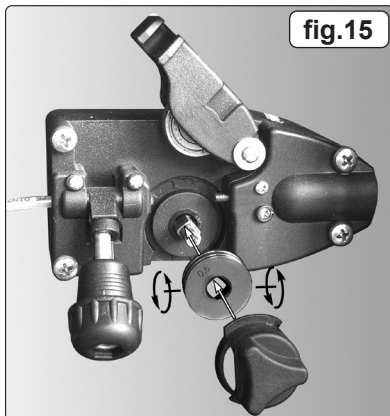

fig.15
9.5.2. Pull the roller off the drive spindle, flip it over and put it back on the drive spindle. (See fig.15) The groove size you require should now be visible on the face of the roller. Push the roller retainer back onto the drive spindle with the opening facing left. Ensure that the flanges at the base of the retainer, seat fully into the circular recess in the main moulding and then rotate the retainer through 90° to lock it in place.